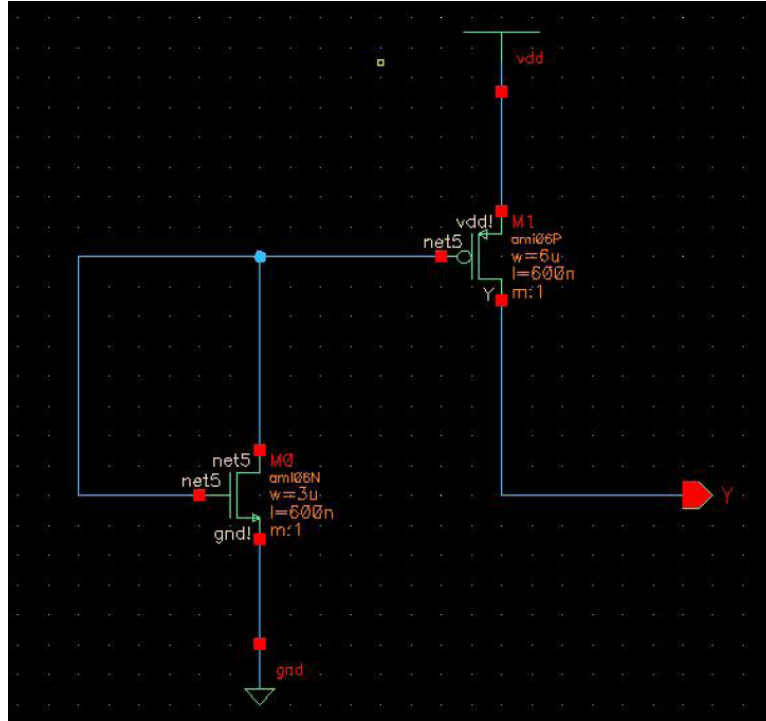

Figure 1: Schematic of the tiehi cell
Figures 1 and 2 show the schematics for the `tiehi` and `tielo` cells that you will define for your library. These will typically be used to drive cell library inputs either high or low. The `tiehi` cell creates a diode connected n-type device that provides a low voltage output. The `tielo` cell is similar, creating a diode-connected p-type to produce a high voltage output.
- TIEHI – A cell that provides a connection to VDD. There is only one output, and no inputs. The single output is a connection to VDD. This is a resistive connection through a transistor so that the gate that it connects is protected from direct connection to the power supply, as shown in Figure 1.